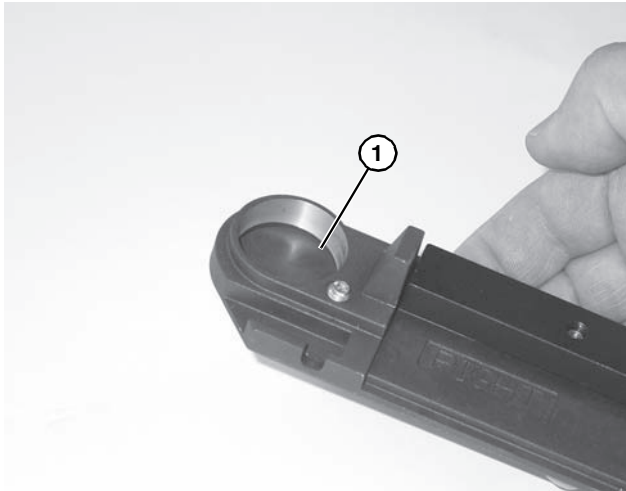

Figure 40
1. Inspect the head plates bearing seating surface (**Figure 40, item 1**). If they are worn or damaged, replace. See “Service Parts” on page 24.